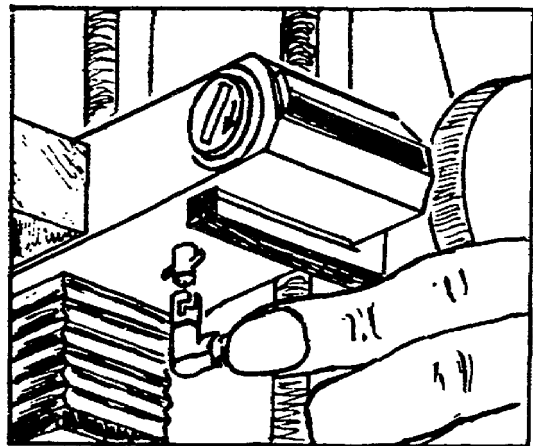

Figure 1-23. Sync Cord Connection.
a. The camera connection is a bayonet connection with two small tabs (one on each side). First, line up the two slots in the cord with the two tabs on the camera connection (fig 1-23).